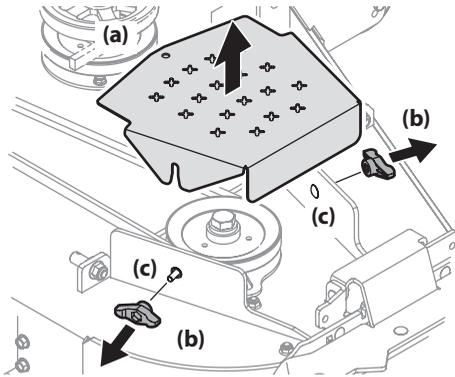

Figure 39
3. To remove the belt covers (a), remove the wing knobs (b) from the carriage screws (c) securing it to the deck (Figure 39).